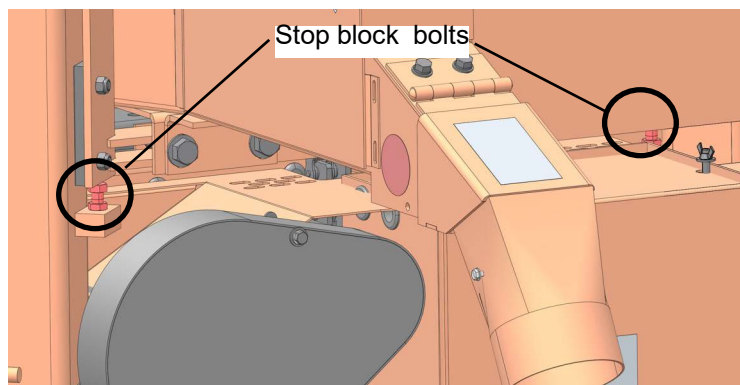

FIG. 4-15
CAUTION! It is important that the lower stop bolts are properly adjusted to secure the carriage on the track rail. Failure to properly adjust the stop bolts can cause saw head damage, especially during mill transportation. **See FIG 4-15.**
13. **If necessary**, adjust the stops located at the bottom of the mast so the saw head contacts them after it is lowered 3/4" (19mm) past where it contacts the rest pin. See FIG. 4-15.